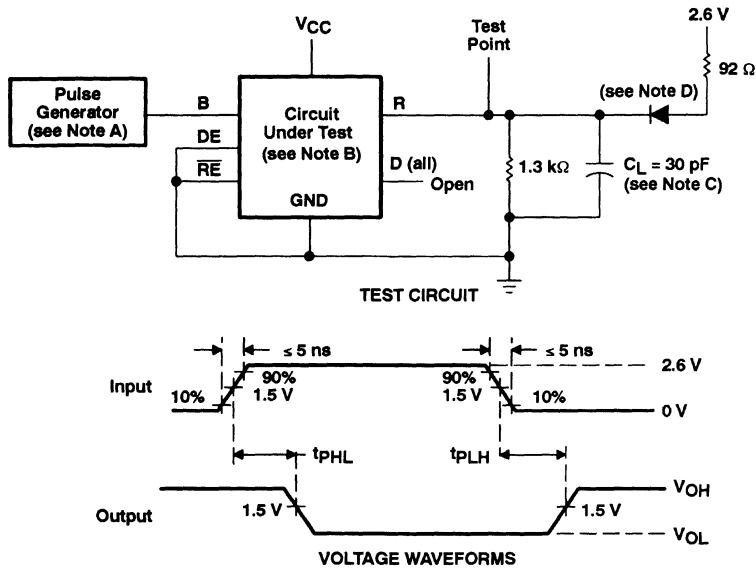

Figure 1. Propagation Delay Times From Bus to Receiver Output
- NOTES: A. The pulse generator in Figures 1 and 2 has the following characteristics: PRR \leq 10 MHz, duty cycle = 50%, $Z_0 \sim 50 \Omega$.